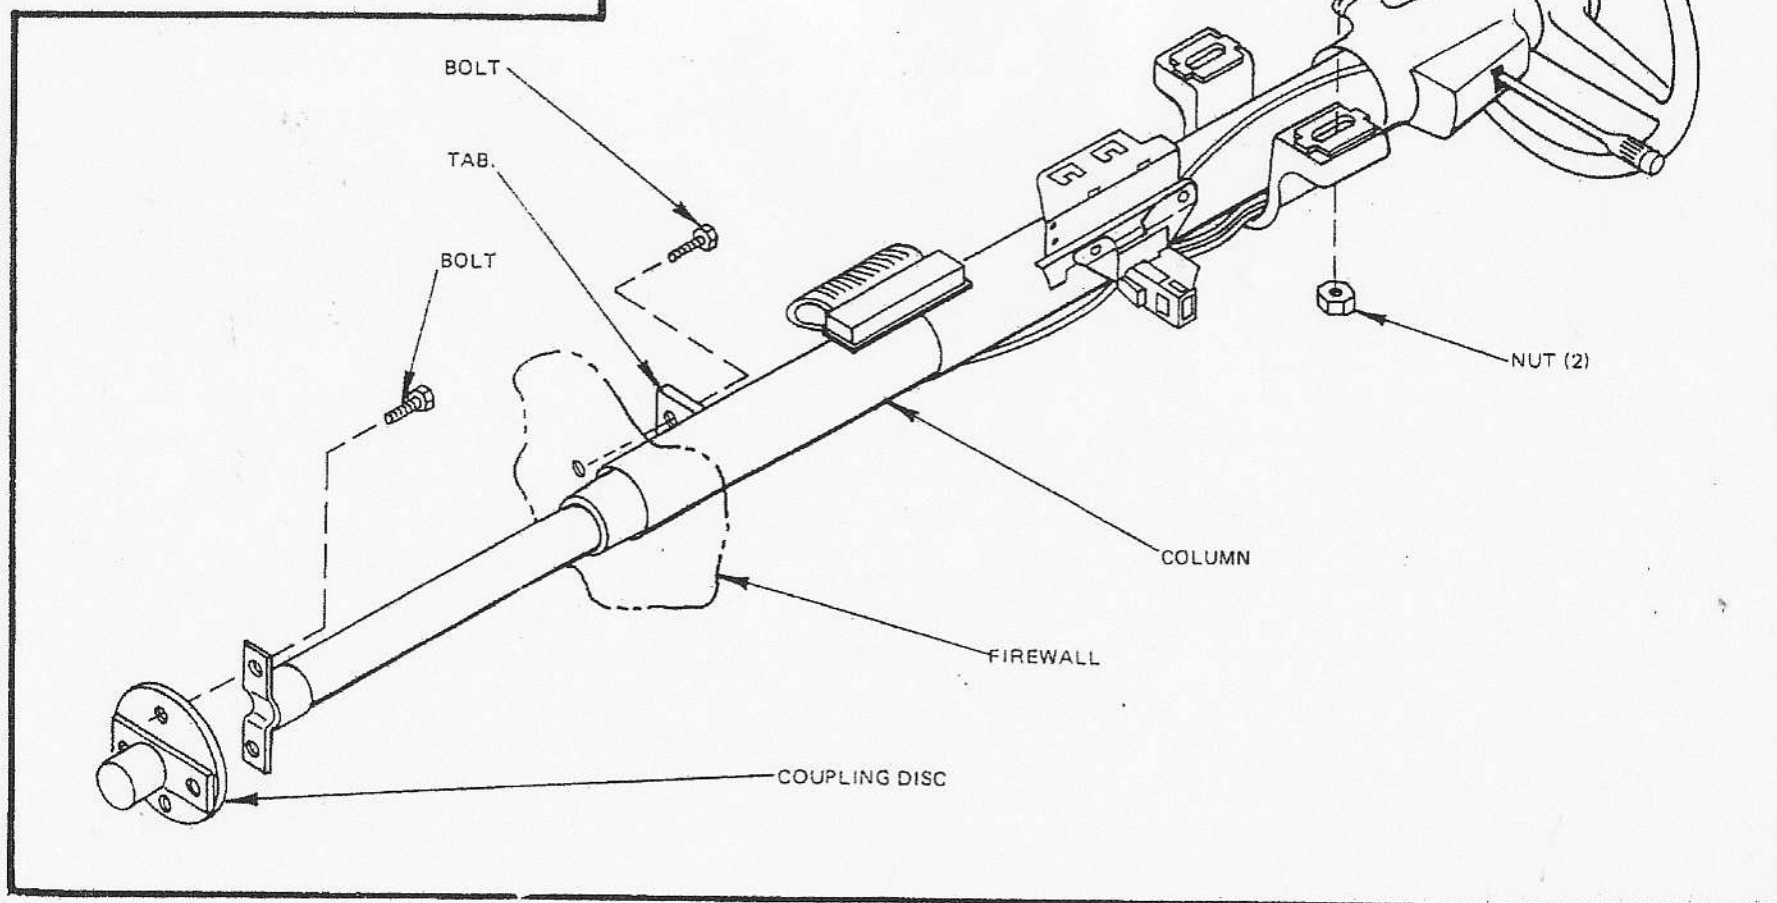

Figure 7
- ☐ Disconnect all steering column wiring plugs. Remove the 2 nuts and bolts holding the steering column to the flexible coupling disc by the rack and pinion. Pull column from car. (Figure 7)